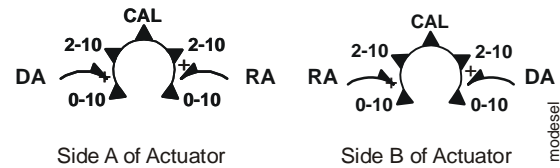

Figure 13: Mode Selection
The M9220-GGx-3 Proportional Electric Spring Return Actuators are factory set for Direct Acting (DA) operation. In DA mode, applying an increasing input signal to the control input drives the actuator away from the spring return position. Reverse Acting (RA) operation is also available. In RA mode, applying an increasing input signal to the control input drives the actuator toward the spring return position. Figure 12 and Figure 13 indicate how the drive direction for the actuator depends on the spring return direction and the position of the mode selection switch.
The M9220-GGx-3 Proportional Electric Spring Return Actuators are factory set at Direct Acting (DA), DC 0 to 10 V control input (Figure 13). To change to RA operation, move the mode selection switch from DA to RA. The DC input signal is selectable from DC 0 to 10 V or from DC 2 to 10 V, which corresponds to 0 to 90° rotation. If the rotation range is reduced, the end-stop is reached with a reduced input signal. For example, if a DC 0 to 10 V input signal is selected and the rotation range is limited to 75°, the end-stop is reached at DC 8.3 V. If an external 500 ohm resistor is placed across the input (see Figure 10), the switch positions then select between 0-20 mA or 4-20 mA.
1. With power off, move the mode selection switch to the CAL position (Figure 13). Then, energize the actuator. The actuator automatically rotates until the end-stops are found, and proportionally reconfigures the control input range to the reduced rotation range.